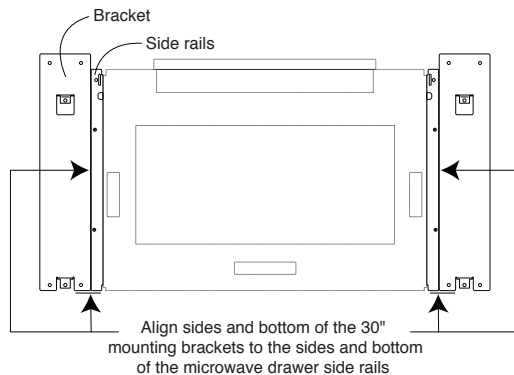

Figure 7
8. Properly align brackets to microwave side rails. See Figure 7.